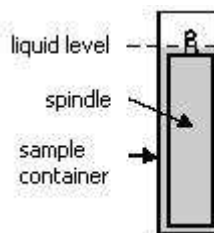

Fig. 10: Full LCP adapter.
- Close the sample (K) container with the stopper (M).
- Insert the container (K) to the lower part, in the circulation jacket (J) by turning it gently.
- Fasten the circulation jacket (J) to the connector (G).
- Connect the hook (H) and the spindle (L)
- Insert the spindle (L) in the circulation jacket (See the note * below)
- Fasten the connector (G) to the hole in the back of the viscometer's metallic base. **(See the note ** below)**
- Check the level of the sample. It should be approximately in the middle of the cone, which is connected to the spindle connector (H). Figure 10 shows more information about this.
- Place the upper stopper (N) over the sample container.